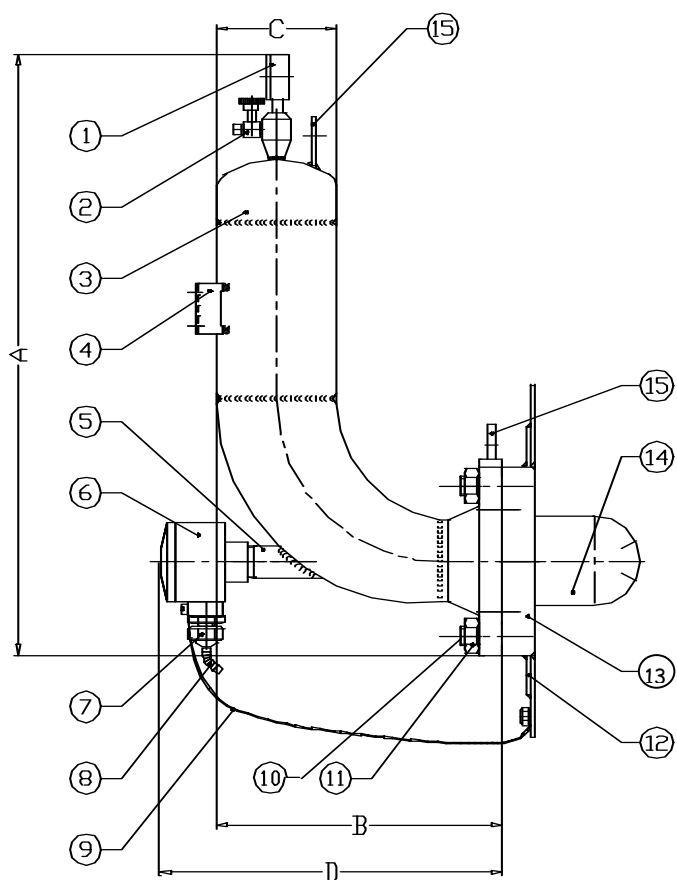

Figure 3: HRD suppression container (typical)
Use the lifting lug (item 15, Figure 3) to manipulate the suppressant container.